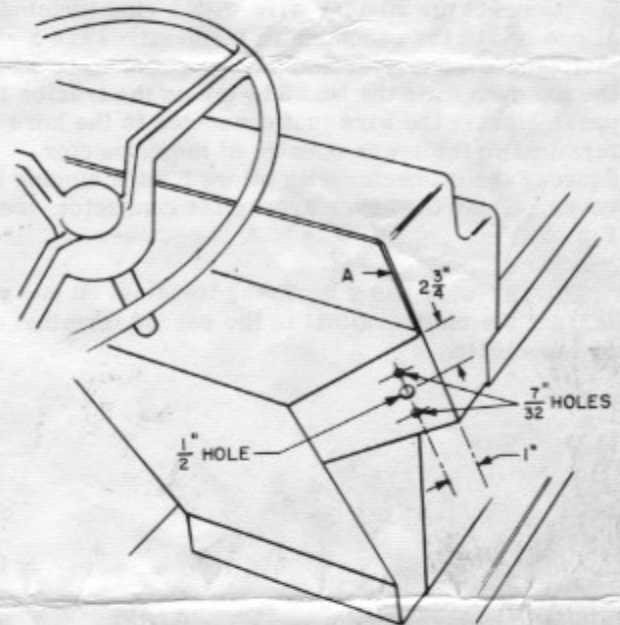

Figure 1
The horn button should be located on the right side cowl panel as shown in Fig. 1. Drill a 1/2-inch center hole 2-3/4 inches from the top of the control panel and 1-inch from the vertical edge (A). (See Fig. 1). Using the horn button as a template, drill two 7/32-inch holes for mounting. (Be sure the horn button is parallel with the vertical edge.) Mount the button after fastening the wires forward and away from the speed control assemblies.